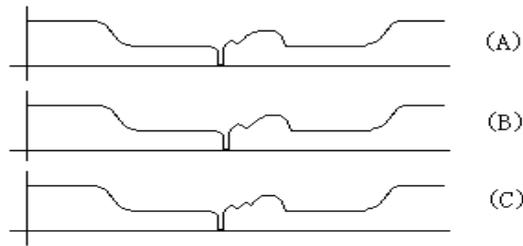

Figure 20 Possible waveform caused by serious oxidization of switch contact points
4.1 The measured waveform is often worse than the theoretical waveform during actual measurement and during winding measurement. This is because the oscillation signals caused by the inductance and capacitance parameters of the transformer winding and the mechanical vibration of the tap changer during measurement cause some fluctuations of the measured waveform. This case cannot be avoided during actual testing. Some switch has been used for many years, and its contact points have been heavily oxidized; therefore, the waveform may appear as shown in Figure 20 during test, which is also a normal phenomenon. The switch can be switched more times at this range to thin the oxidation layer and increase the contact area; then the switch is tested with the instrument, and this phenomenon may be avoided.